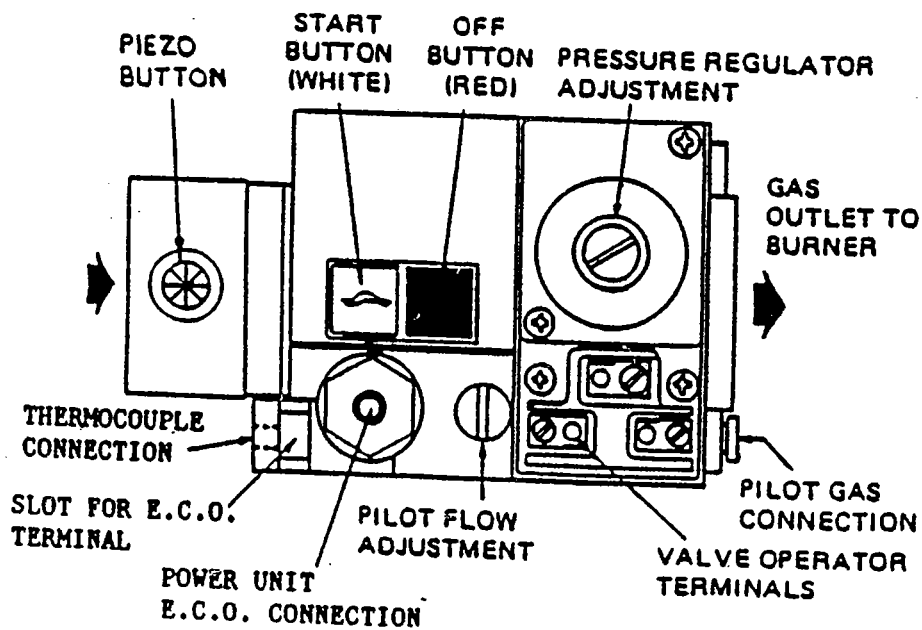

Fig. 5 - Honeywell V4400 C Softlite 3/4 in Control Valve
- 1) Fit preformed plastic terminal A into the slot provided in the control valve (see Fig. 5) and insert the thermocouple tip into the threaded connection hole. Tighten the attachment nut with a wrench only 1/4 to 1/2 turn beyond finger tight ensuring that the thermocouple tip engages with the exposed cable in the plastic terminal of the E.C.O. lead.
- 2) Insert the tip of terminal B into the power unit connection on the control valve (see Fig. 5). Tighten the attachment nut with a wrench only 1/4 to 1/2 turn beyond finger tight.